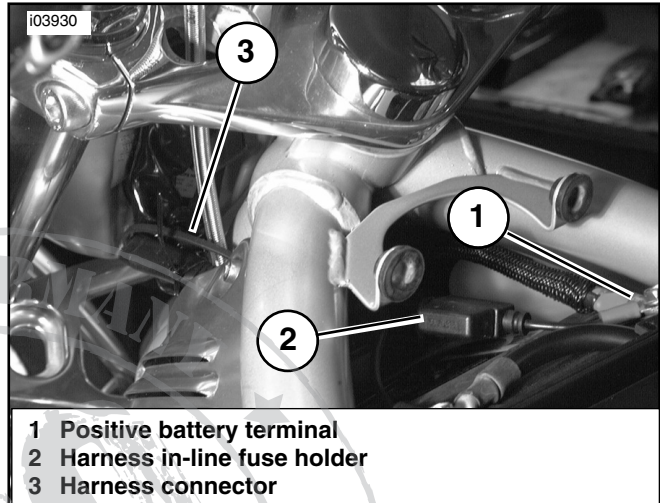

Figure 2. VRSC Battery Harness Routing
1. See Figure 2. Route the battery harness/ connector (3) toward the front of the bike following the upper left frame tube. Cleanly tuck the in-line fuse (2) into the space in front of the battery.